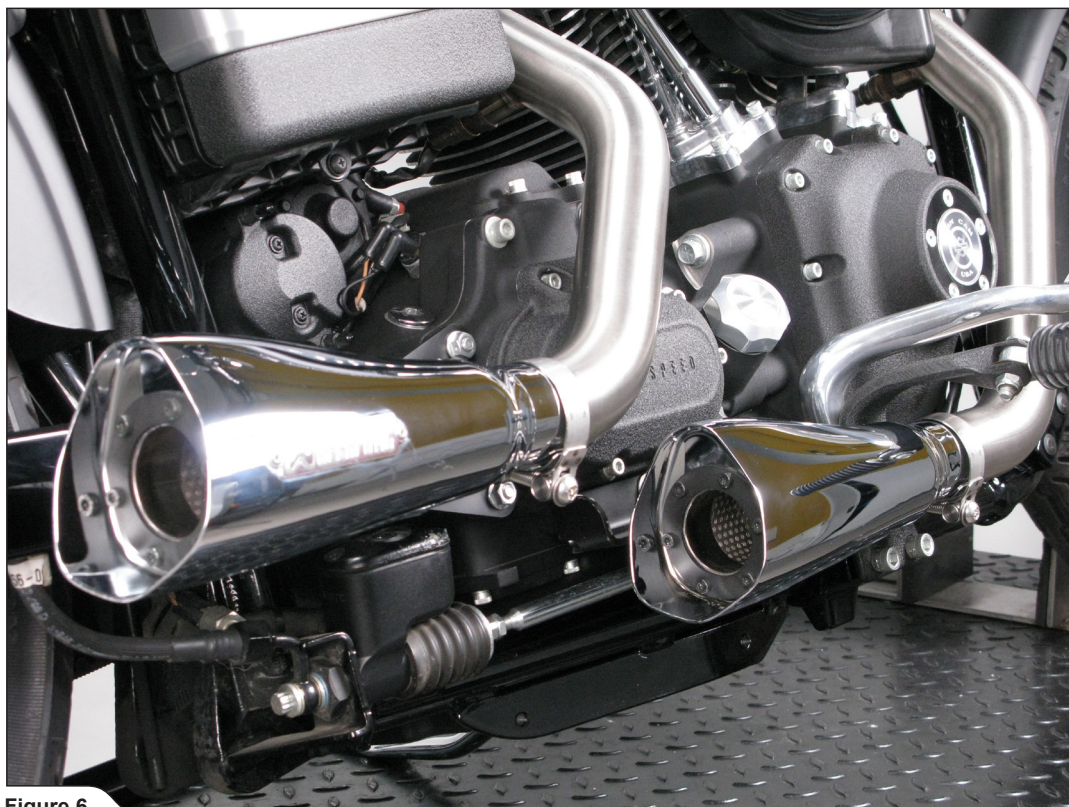

Figure 6
- Slide the mufflers onto the header pipes. Align the mufflers and attach them to the mufflers' brackets using bolts, washers and nuts from Akrapovič installation kit (Figure 6, 7).